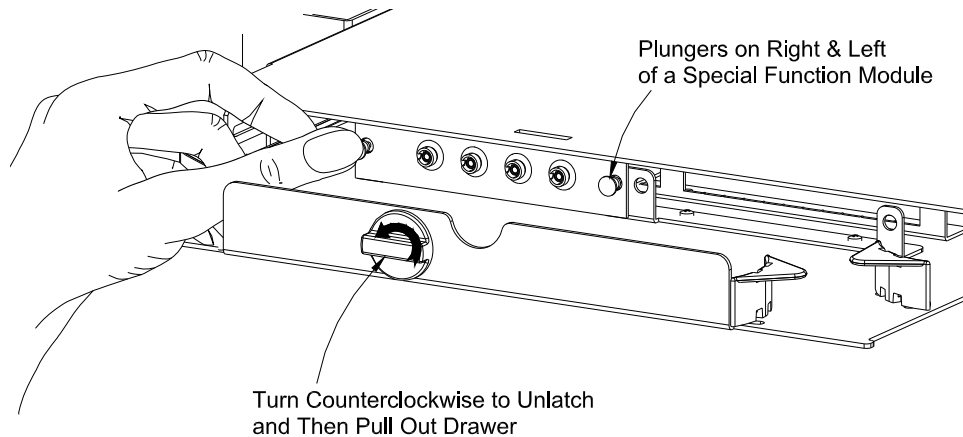

Figure 40 - Installing Patch Plates & Special Function Modules in a
3. If applicable, install adapter packs and/or special function modules in configurable LCX Fiber Patch Panels. Figure 40 shows a special-function module being installed in a 1RU LCX Fiber Configurable Patch Panel. Push in quick-connect plungers at either end of faceplate to lock pack or module in bulkhead.